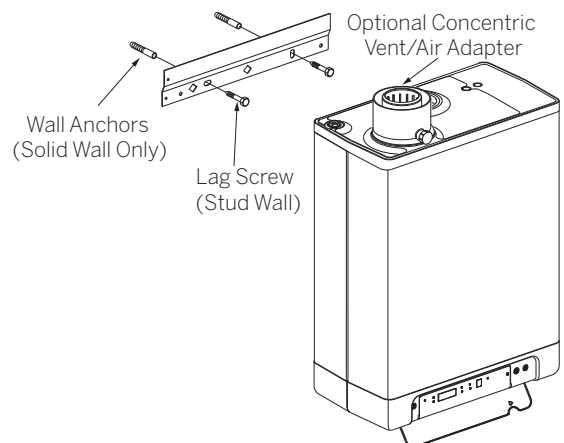

Fig. 2: Wall Mounting the CHALLENGER
2. For applications using wood studs, install the bracket using the lag screws provided with the appliance, see Fig 2. Ensure both lag screws are installed securely in the studs.
3. For applications using metal studs, install the bracket to the studs using 3/16" [5 mm] toggle bolts and washers (provided by others), see Fig 2.